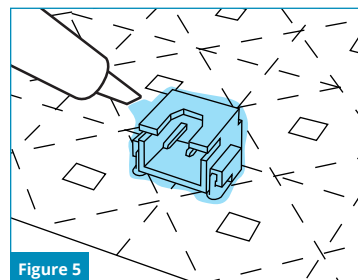

Figure 5
1. Fill the terminal block with silicone and insert the sheet connector (Figure 5).